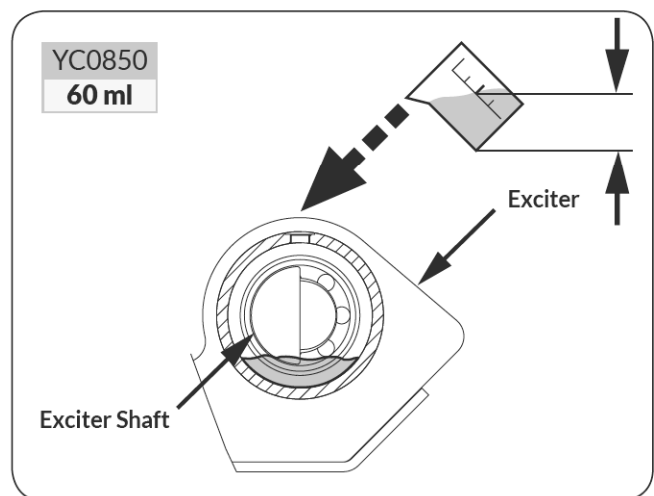

Figure 9c
7. Fill the exciter housing with exciter oil. (See **Figure 9c**)